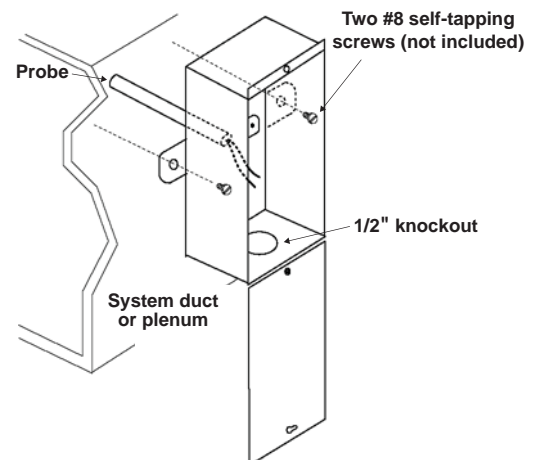

Figure 3 - Installing the TE-702-A, TE-702-B, or TE-702-C Sensor
6. Make the wiring connections. Rotate and screw the cover back into place. Refer to **Figure 3**.